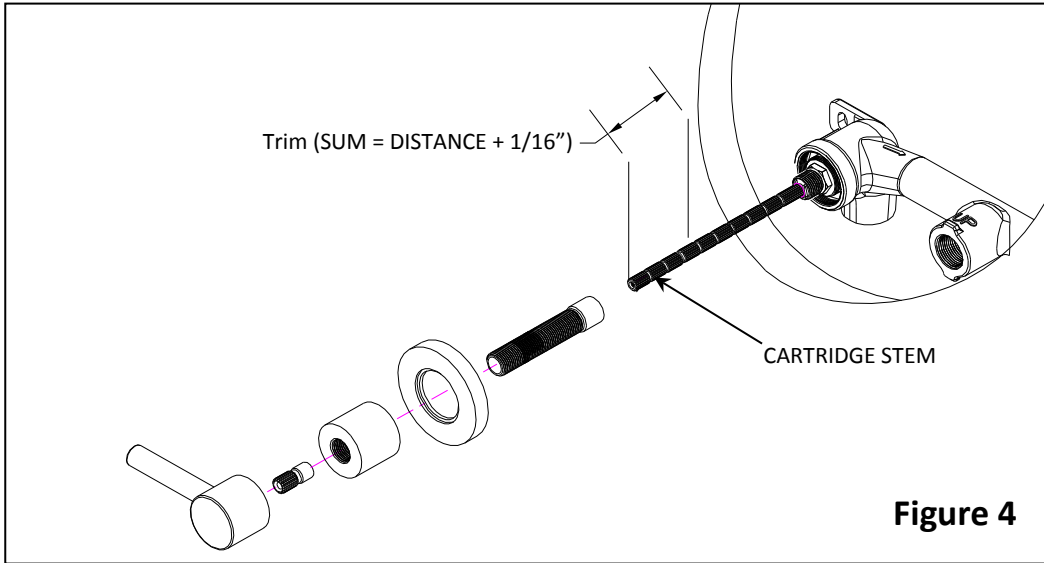

Figure 4
3. **Figure 4**, disassemble HANDLE, ESCUTCHEON/BONNET, BASE RING, ADAPTER SCREW, and CARTRIDGE ADAPTER. Cut the SUM length from the 20 tooth CARTRIDGE STEM (SUM= DISTANCE + 1/16"). **Note:** For some HANDLE styles, where a portion of the HANDLE base is inserted inside ESCUTCHEON/BONNET, additional CARTRIDGE STEM trim is needed to achieve desired aesthetic look.